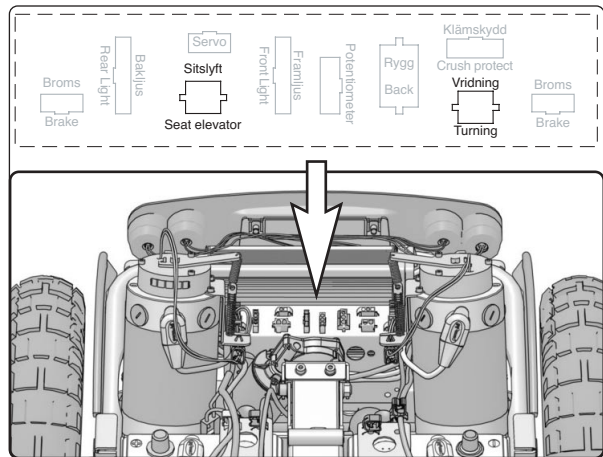

Fig. 3.
11. Mount the contact on the connection box. See fig. 3.